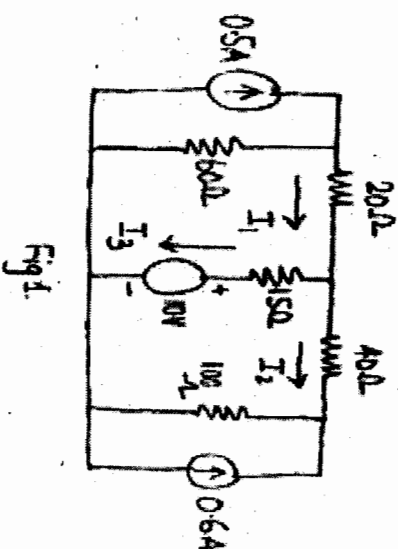

Fig. 1
3. Using mesh analysis, find the currents I_1 , I_2 and I_3 in the following circuit of Fig. 1